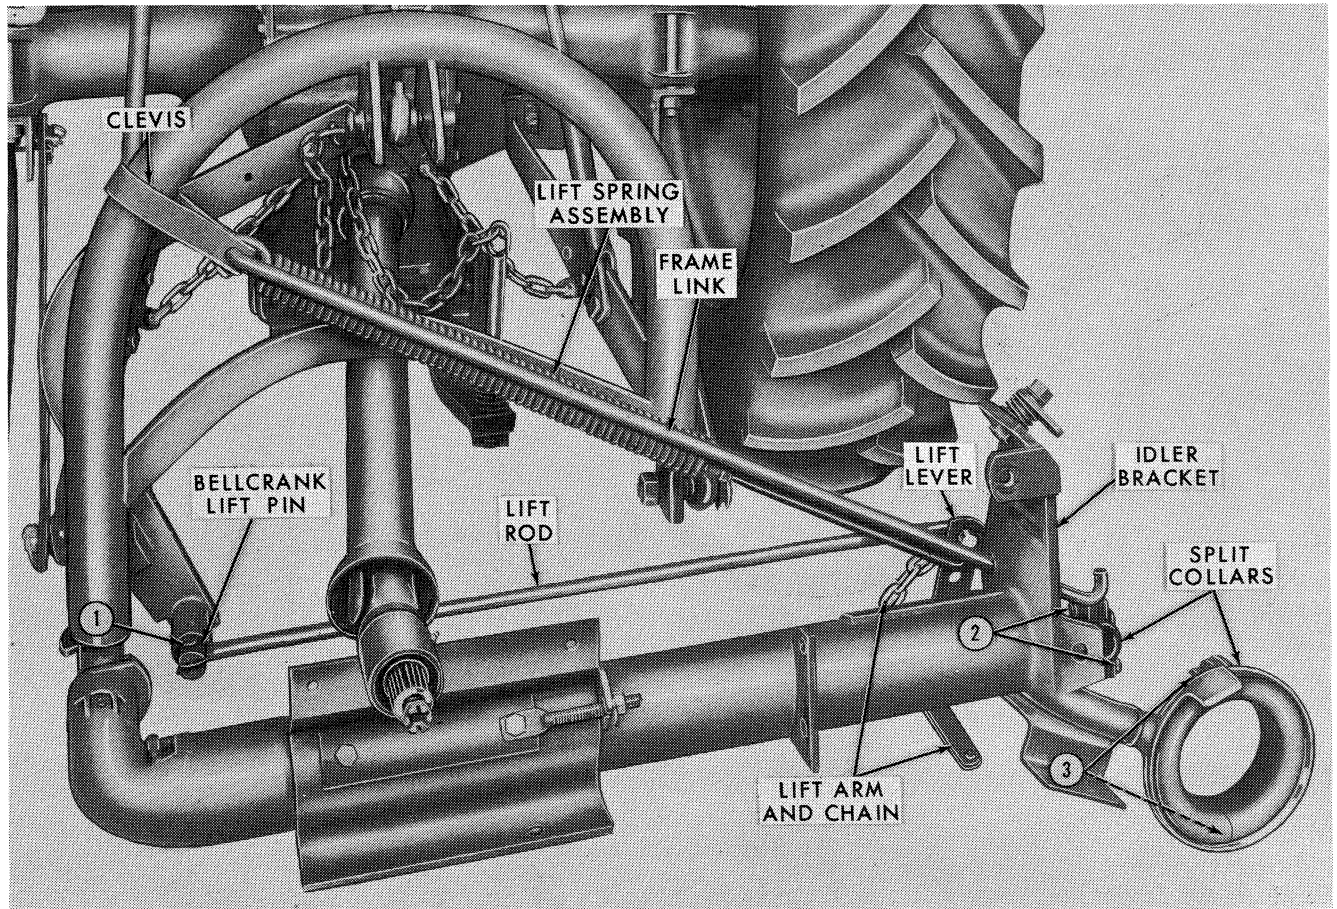

Figure 33
- c. Attach the tractor lower link to the mower link pins. Position the stabilizer bars on the link pins and secure with the tractor linch pins, as shown in Figure 33.
6. Hook the frame link, Figure 33, in the hole in the idler bracket on 56" mower frames or in the special frame link bracket on 76" mower frames.
7. Insert the upper end of the frame link through the hole in the clevis, as shown in Figure 33. Secure with the 1/4" x 1-1/4" cotter hairpin provided in the bag of hardware.
8. Hook the upper end of the lift spring assembly, Figure 33, in the clevis.
9. Insert the lower end of the lift spring assembly in the middle hole of the lift lever for a 7-foot or 8-foot cutter bar, or the bottom hole for a 6-foot cutter bar. See Figure 33. Secure with the 5/8" flat washer and 1/4" x 1-1/4" spring pin provided in the bag of hardware.
10. Position the end link of the lift chain on the lift rod and insert the rod into the lift lever, as shown in Figure 33. Secure with the 1/4" x 1-1/4" spring pin provided in the bag of hardware.
11. Attach the other end of the lift rod to the bell-crank lift pin with the clevis pin (1), Figure 33, and cotter pin.
12. Remove the outer halves of the split collars, Figure 33, by removing the two bolts (2) and the two bolts (3), from each collar.